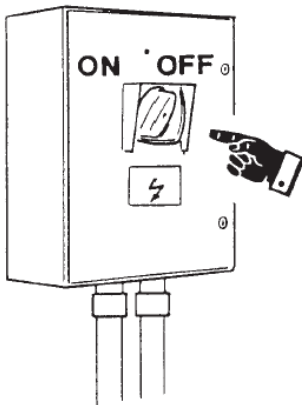

fig.13
- Check the suitability and correct functioning of the electric system: (fig.13)